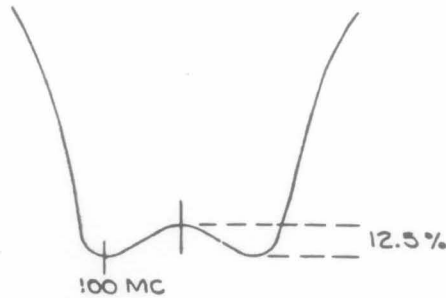

Figure 5-21. Type 901 Receiver, Typical Response Curve, V502 to V503 Interstage Alignment, Receiver Dial at 100 mc, Bottom Cover On
- (8) Set the receiver dial to 100 mc and sweep generator to approximately 100 mc.
(9) Using a calibrated 100-mc marker from the Hewlett-Packard 608D signal generator, adjust C512 and C516 for a symmetrical double-tuned response with the 100-mc marker appearing at the low frequency peak as shown in Figure 5-21.
(10) Adjust C515 for 12.5% center dip as shown in Figure 5-21.
(11) Repeat steps (9) and (10) until the final response curve assumes the proper shape with the bottom cover on.